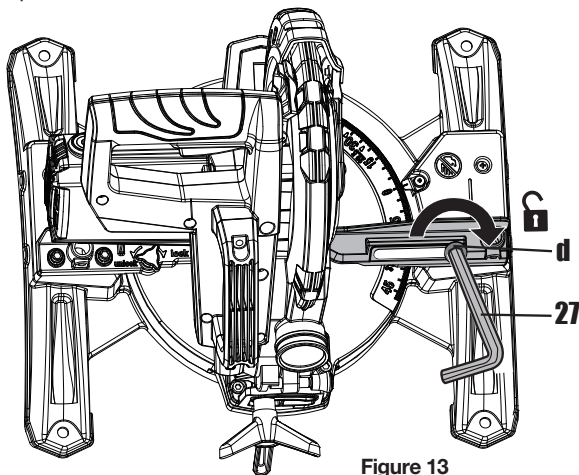

Figure 13
27. Wrench / Hex key with screwdriver head (See Fig. 13&30)